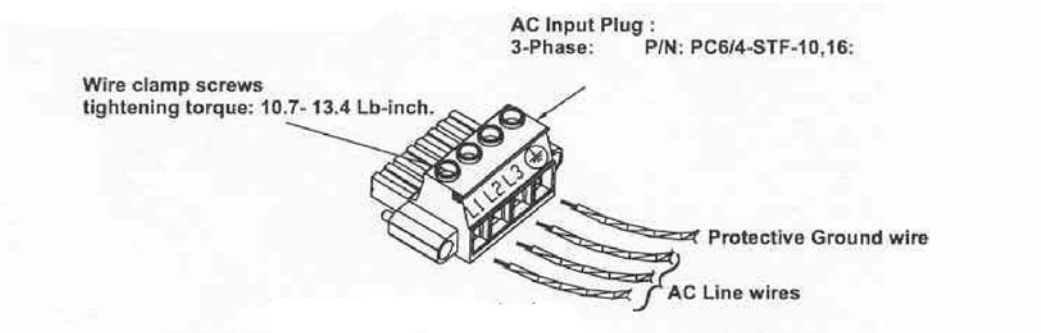

Fig.3-3: AC Input plug (3-Phase shown)
4. Connect the AC wires to the terminals of the input plug supplied with the unit. To connect the wires, loosen the terminal screw, insert the stripped wire into the terminal and tighten the screw securely (10.7-13.4 Lb-inch). (1.21 – 1.5Nm) Refer to Fig. 3-3 for details. Pay attention to connect the wires according to the polarity marking on the plug.